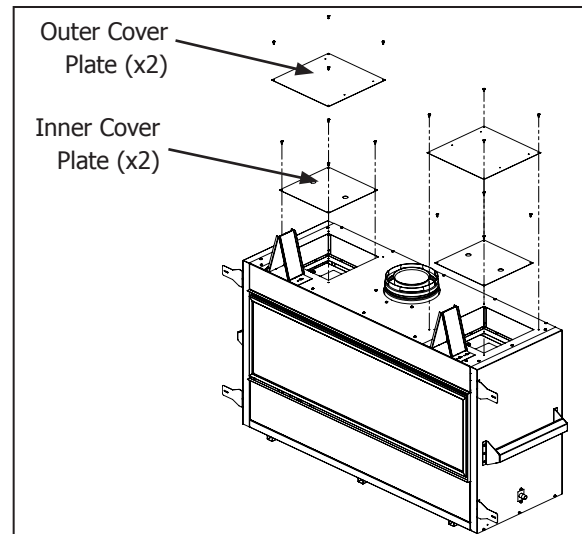

Figure 14. Cover Plate Removal
Step 1: Using a T20 screwdriver, remove the inner and outer cover plates from the fireplace as shown (Figure 14). Each cover plate has four (4) mounting screws. Both sets of cover plates are no longer required and can be recycled. Retain eight (8) of the removed mounting screws to secure the duct collars.